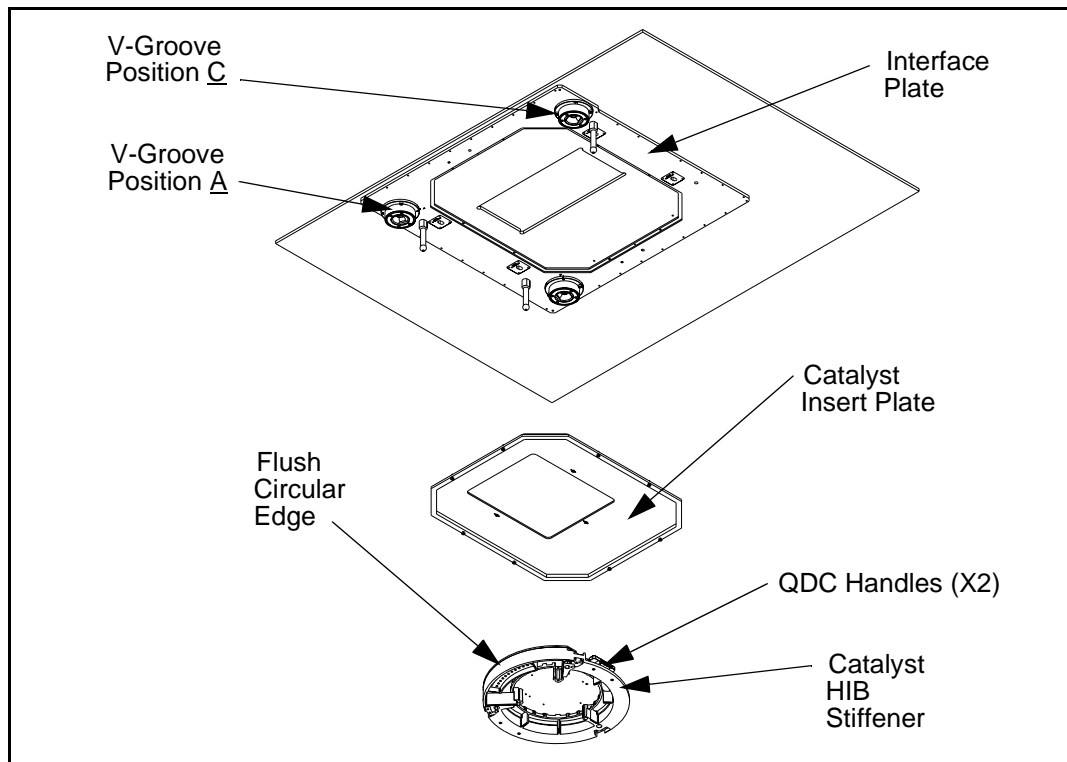
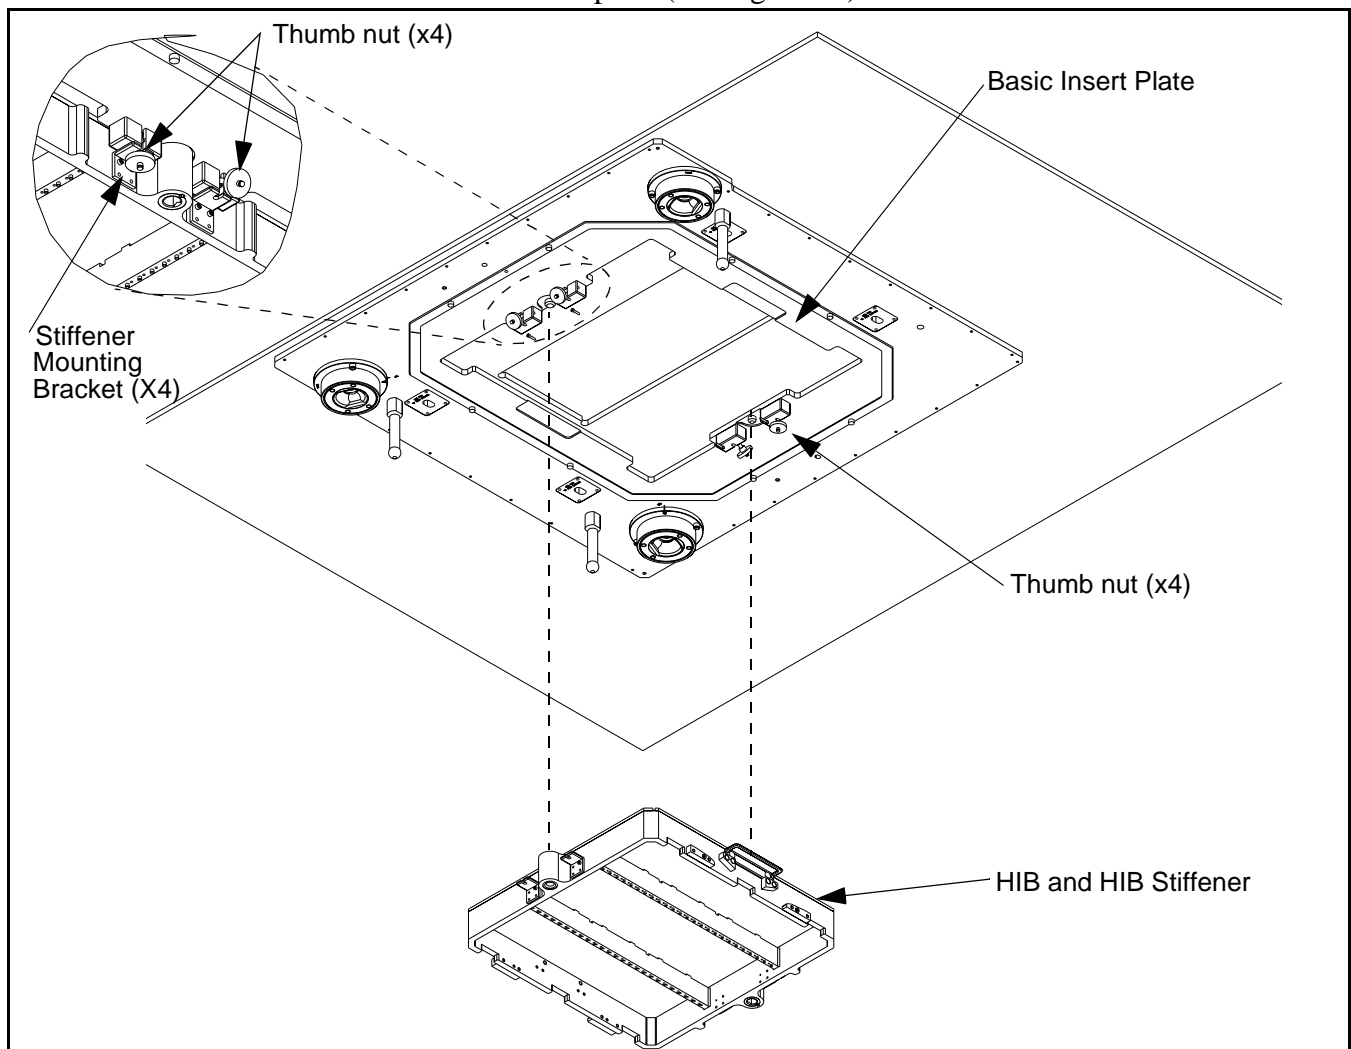

Figure 15 Catalyst HIB Attachment
Figure 22 Attaching the HIB to the Insert Plate (Manual Mount)
Instructions for mounting and aligning the handler interface board (HIB) to the following testers or kits are given in this section (see Figure 15 through Figure 22):
- 2) Before attaching a Catalyst HIB, orient it with the flush circular edge positioned towards the A and C V-groove positions (see Figure 15).
- 3) Position the DIB on the basic insert plate and place the thumb nuts in the grooves on the DIB stiffener mounting brackets (see Figure 22).
- 4) Tighten (finger tight) the four thumb nuts by rotating them clockwise. This secures the stiffener to the basic insert plate (see Figure 22).
Use the following procedure to detach the HIB from the basic insert assembly plate (see Figure 22).